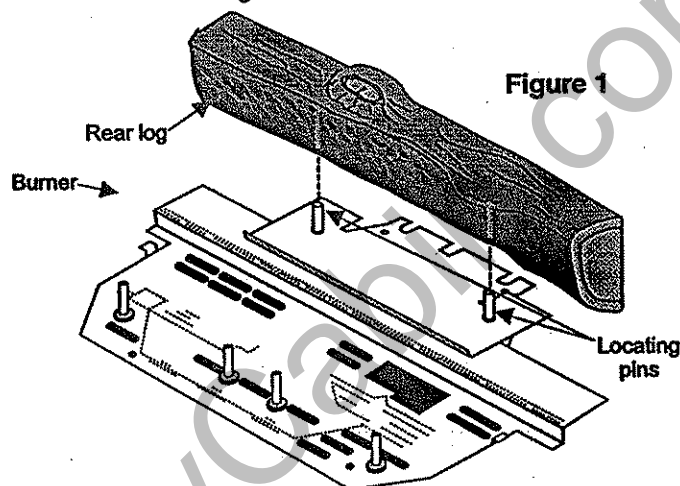

Figure 1
- 2) Place the rear log, carefully sliding it down onto the pins, with the flat side of the log facing the back of the unit. See figure 1.
- 2) Slide the door onto the two hinge pins making sure the two pieces are flush together. See figure 1.